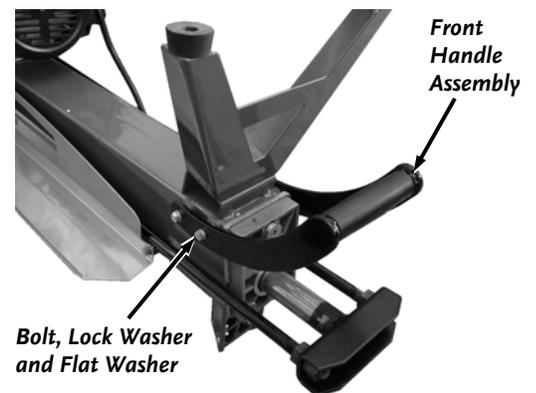

Figure 5
3. Install the Front Handle to the Splitter with two Bolts, Lock Washers and Flat Washers on each side (4 total) using a 10mm Wrench (**Figure 5**).